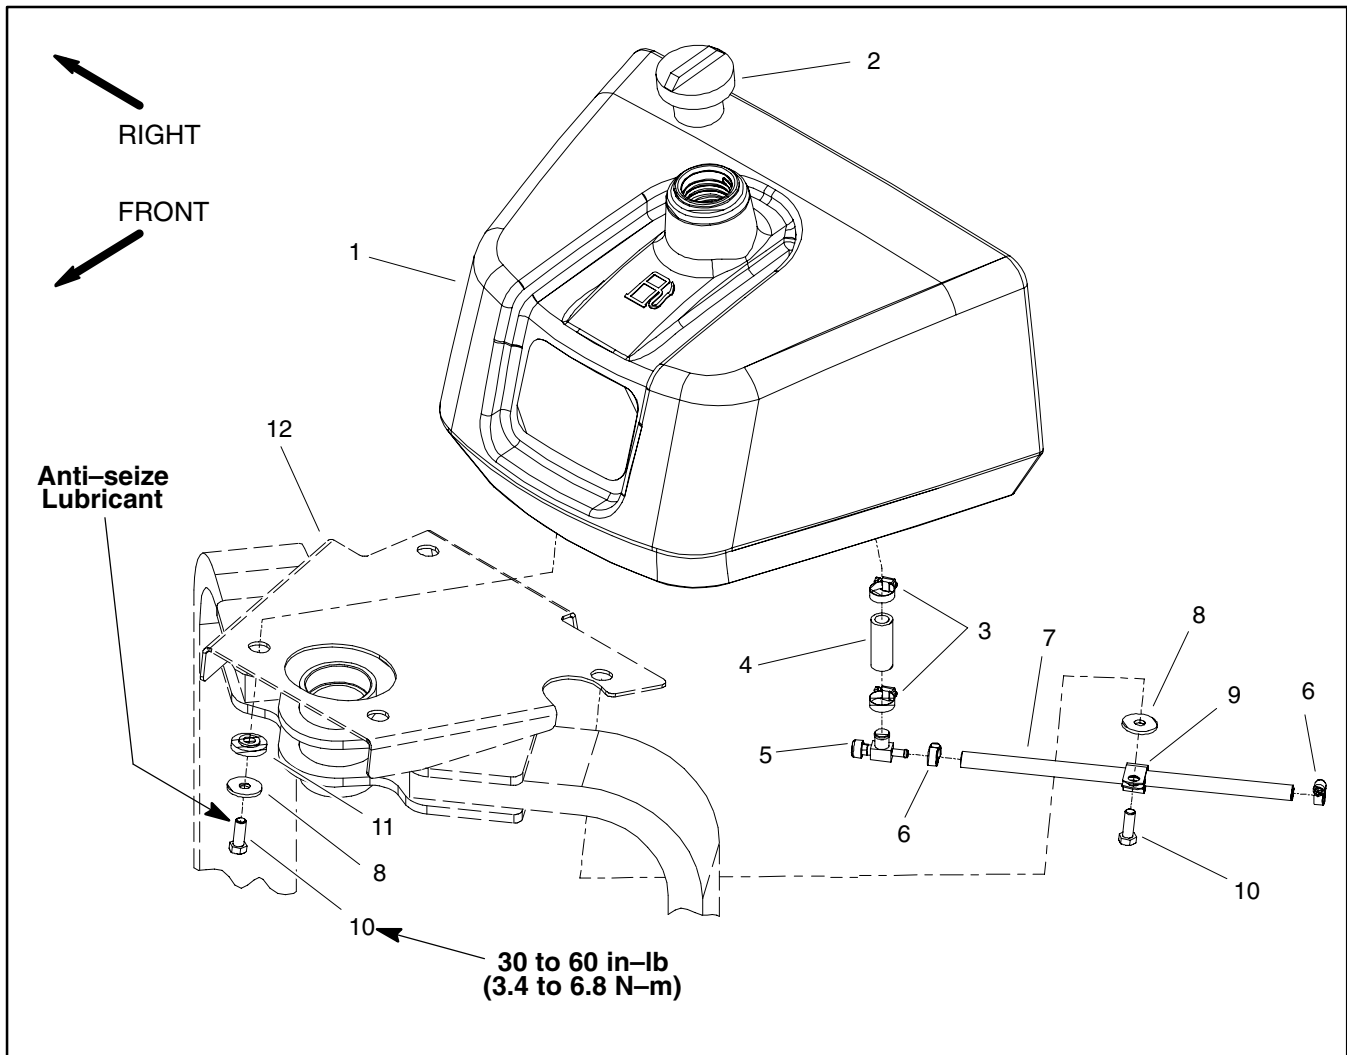

Figure 5
### Fuel Tank Removal (Fig. 5)
4. Remove fuel tank using Figure 5 as a guide.
### Fuel Tank Installation (Fig. 5)
1. Install fuel tank to frame using Figure 5 as a guide. Apply anti-seize lubricant to fuel tank cap screws and torque screws from 30 to 60 in-lb (3.4 to 6.8 N-m).